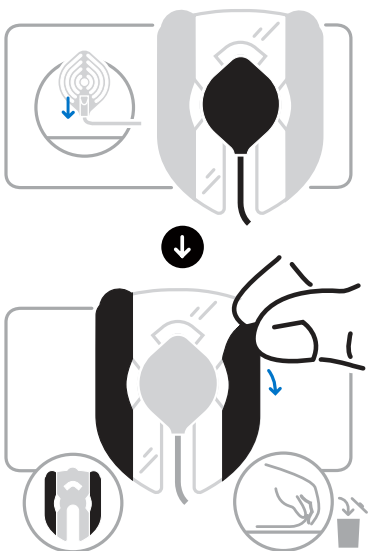

fig.3
- 3 Place the actuator on the exposed adhesive at the center of the patch, with the metal transducer facing up and the wire aligned with the open notch in the patch. (fig.3)